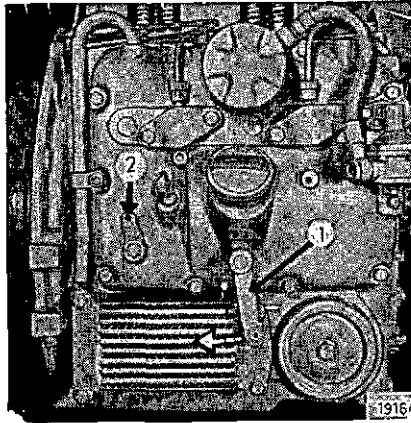

Fig. 6
2. Set speed control lever 1 (Fig. 6) to about quarter speed by hand or foot in the arrowed direction.
2. Move speed control lever 1 (Fig. 6) to about  $\frac{1}{4}$  speed position by hand or foot in arrowed direction.
1. Set speed control lever 1 (Fig. 6) to low idling.